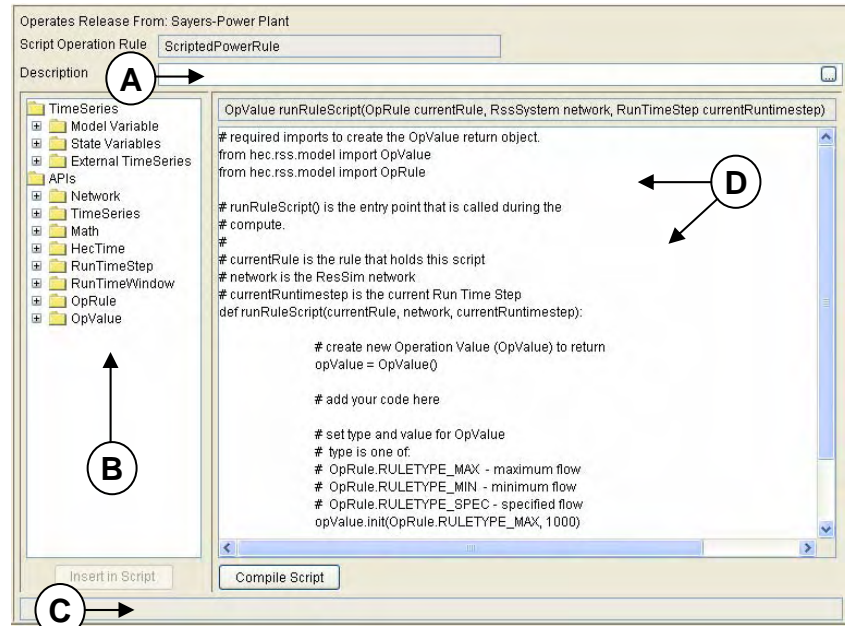
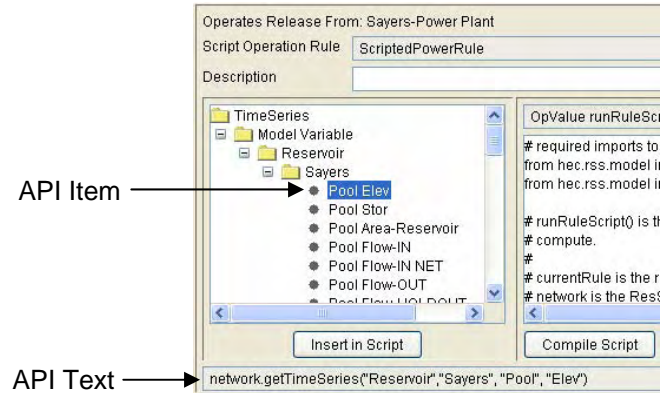

Figure 11.56 Scripted Rule Editor “Default Template”
Figure 11.57 Scripted Rule Editor – API Pane Item Nodes and Text
2. When you select the Scripted rule in the operations tree of the reservoir editor, a multi-pane Scripted Rule Editor with a default template will display (Figure 11.56).
3. The Application Programming Interface (API) pane (Figure 11.56, part **B**) provides for the following:
As illustrated in Figure 11.57, selecting an item node (not a folder) in the API pane causes the API text for the selected item node to be displayed in the API preview bar (Figure 11.56, part **C**).